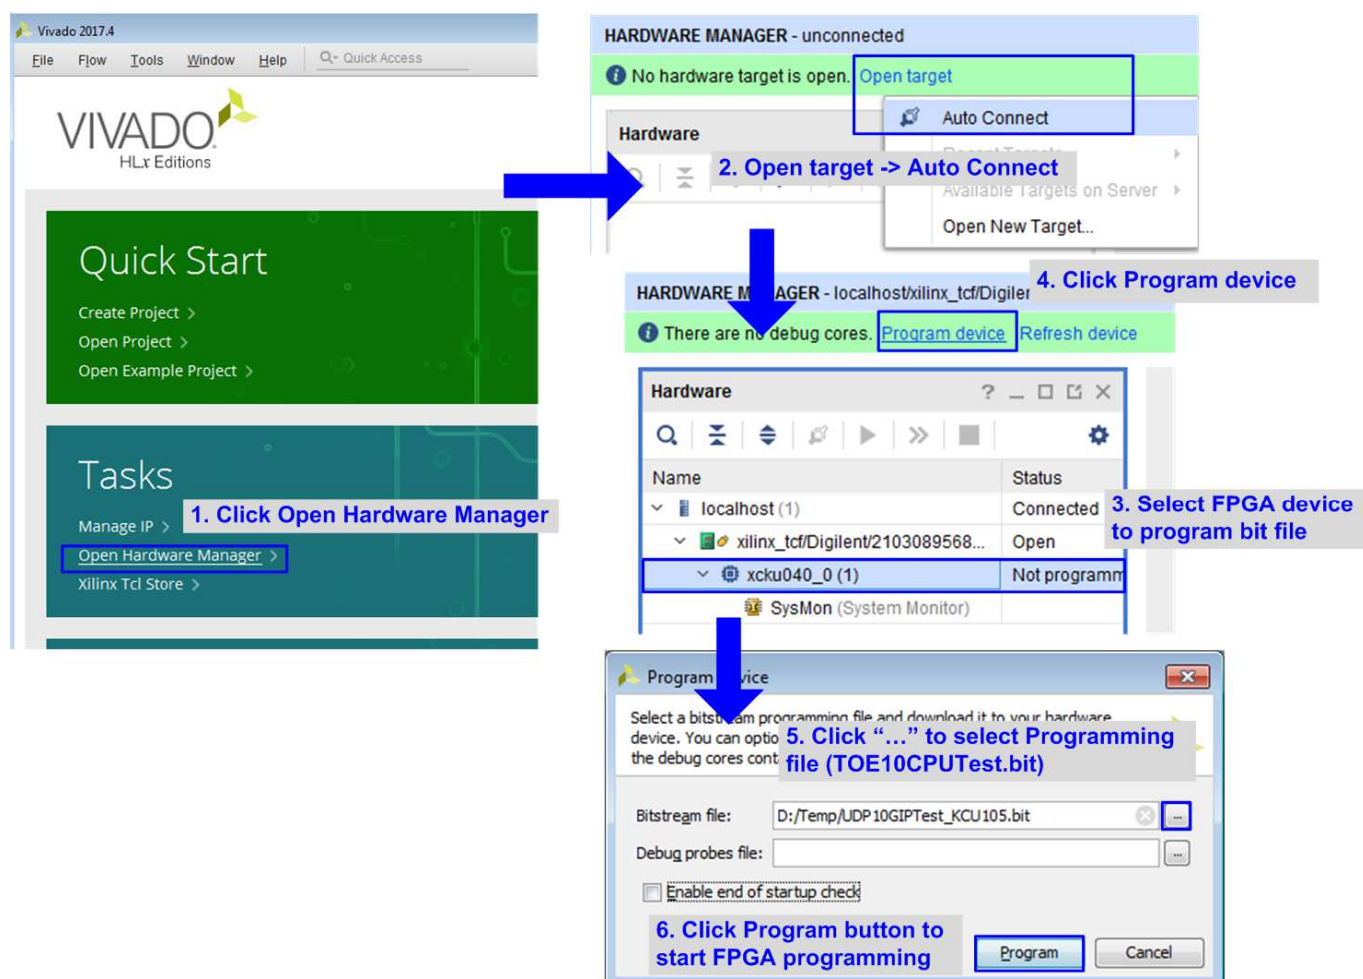

Figure 4-6 Program FPGA by Vivado
- b) For KCU105 board, use Vivado tool to program configuration file, as shown in Figure 4-6